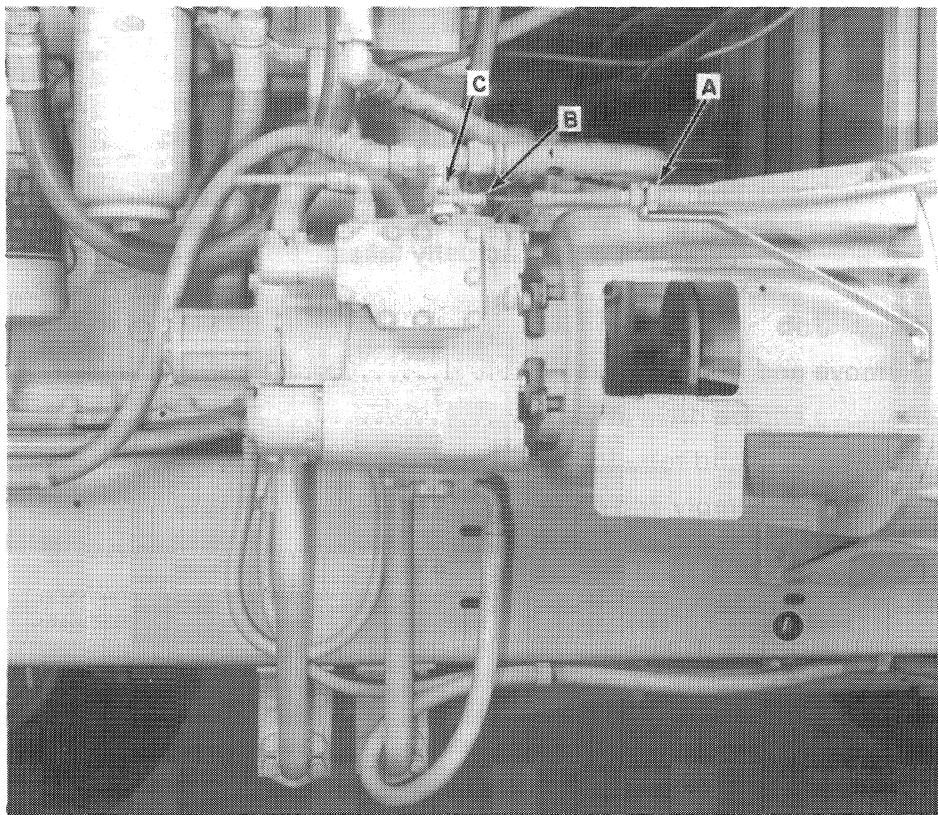

FIGURE 1-22
7. Install the hydrostatic control cable and support. **NOTE: When installing the cable, position the control lever in the cab in neutral. Adjust the cable at A or B, Figure 1-22, so the mounting bolt, C, will install without forcing.**